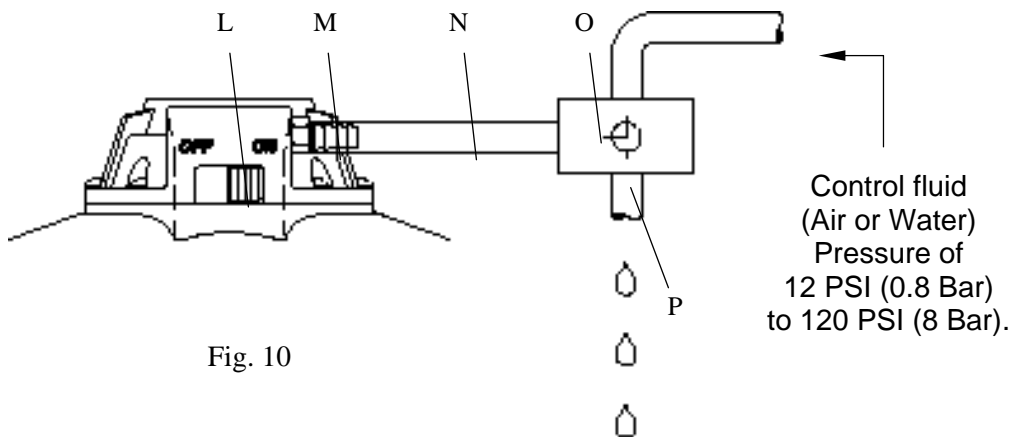

Fig. 10
- Open the solenoid valve (**Fig. 10 - O**).
- The control fluid is turned off and the residue flows to waste (**Fig. 10 - P**).